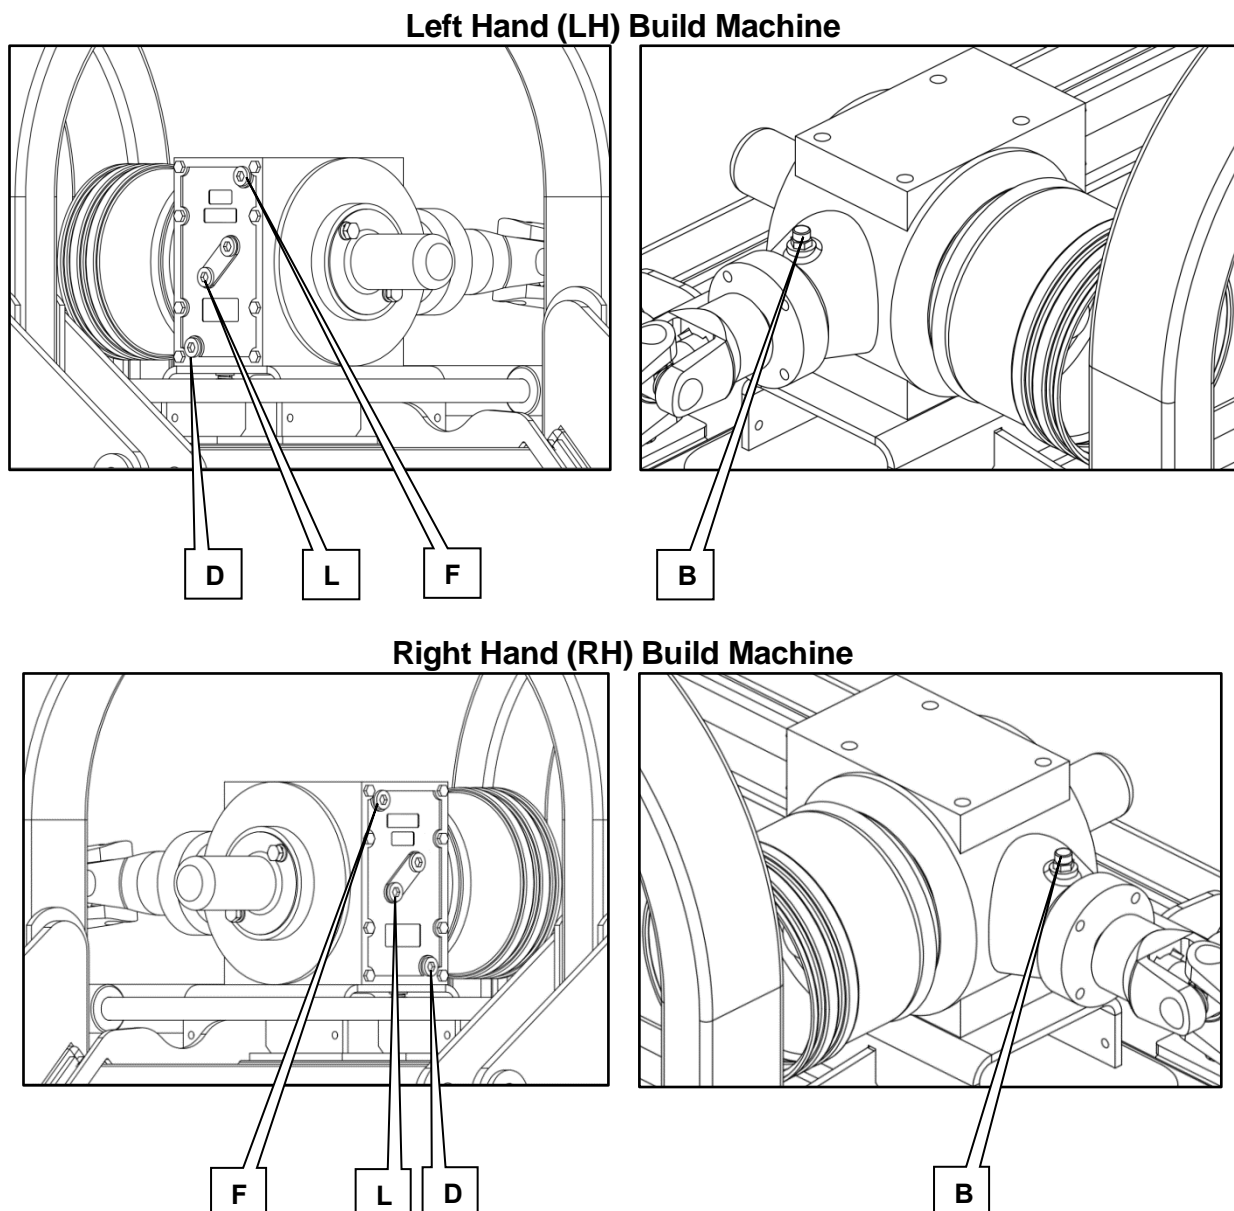

Figure 9.1
Drain and replace the oil after the first 50 hours' work and thereafter every 500 hours or 12 months, whichever is the earlier. The positions of the filler plugs (F), level plugs (L), drain plugs (D) and breather (B) are shown for the gearbox in Figure 9.1 below for all models of Rollifail HD.